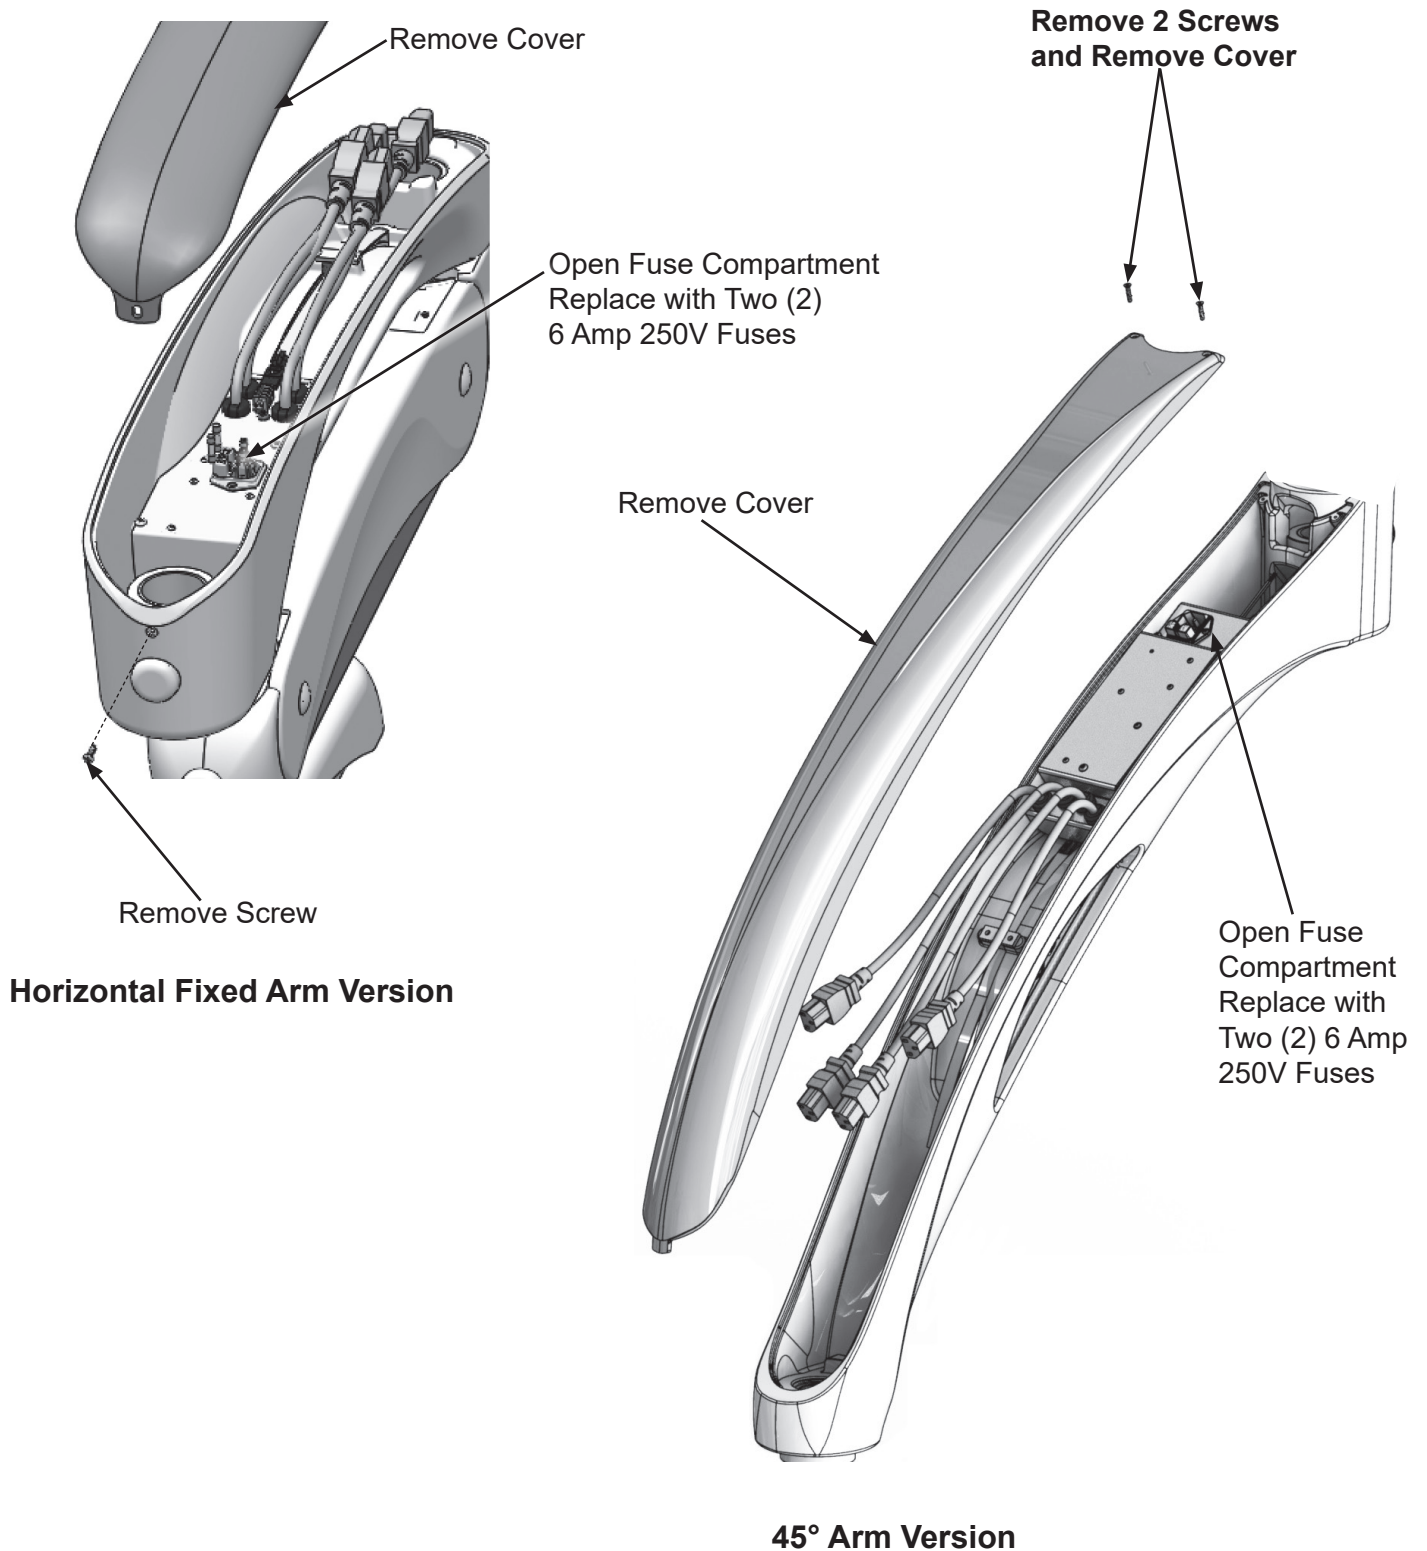

Figure 5-10 Fuse Replacement
2. Remove the screw(s) holding the cover on the arm. **See Figure 5-10**
6. Replace with two (2) new 5mm x 20mm cylinder, slow-blow, 6 Amp 250 Volt Fuses.